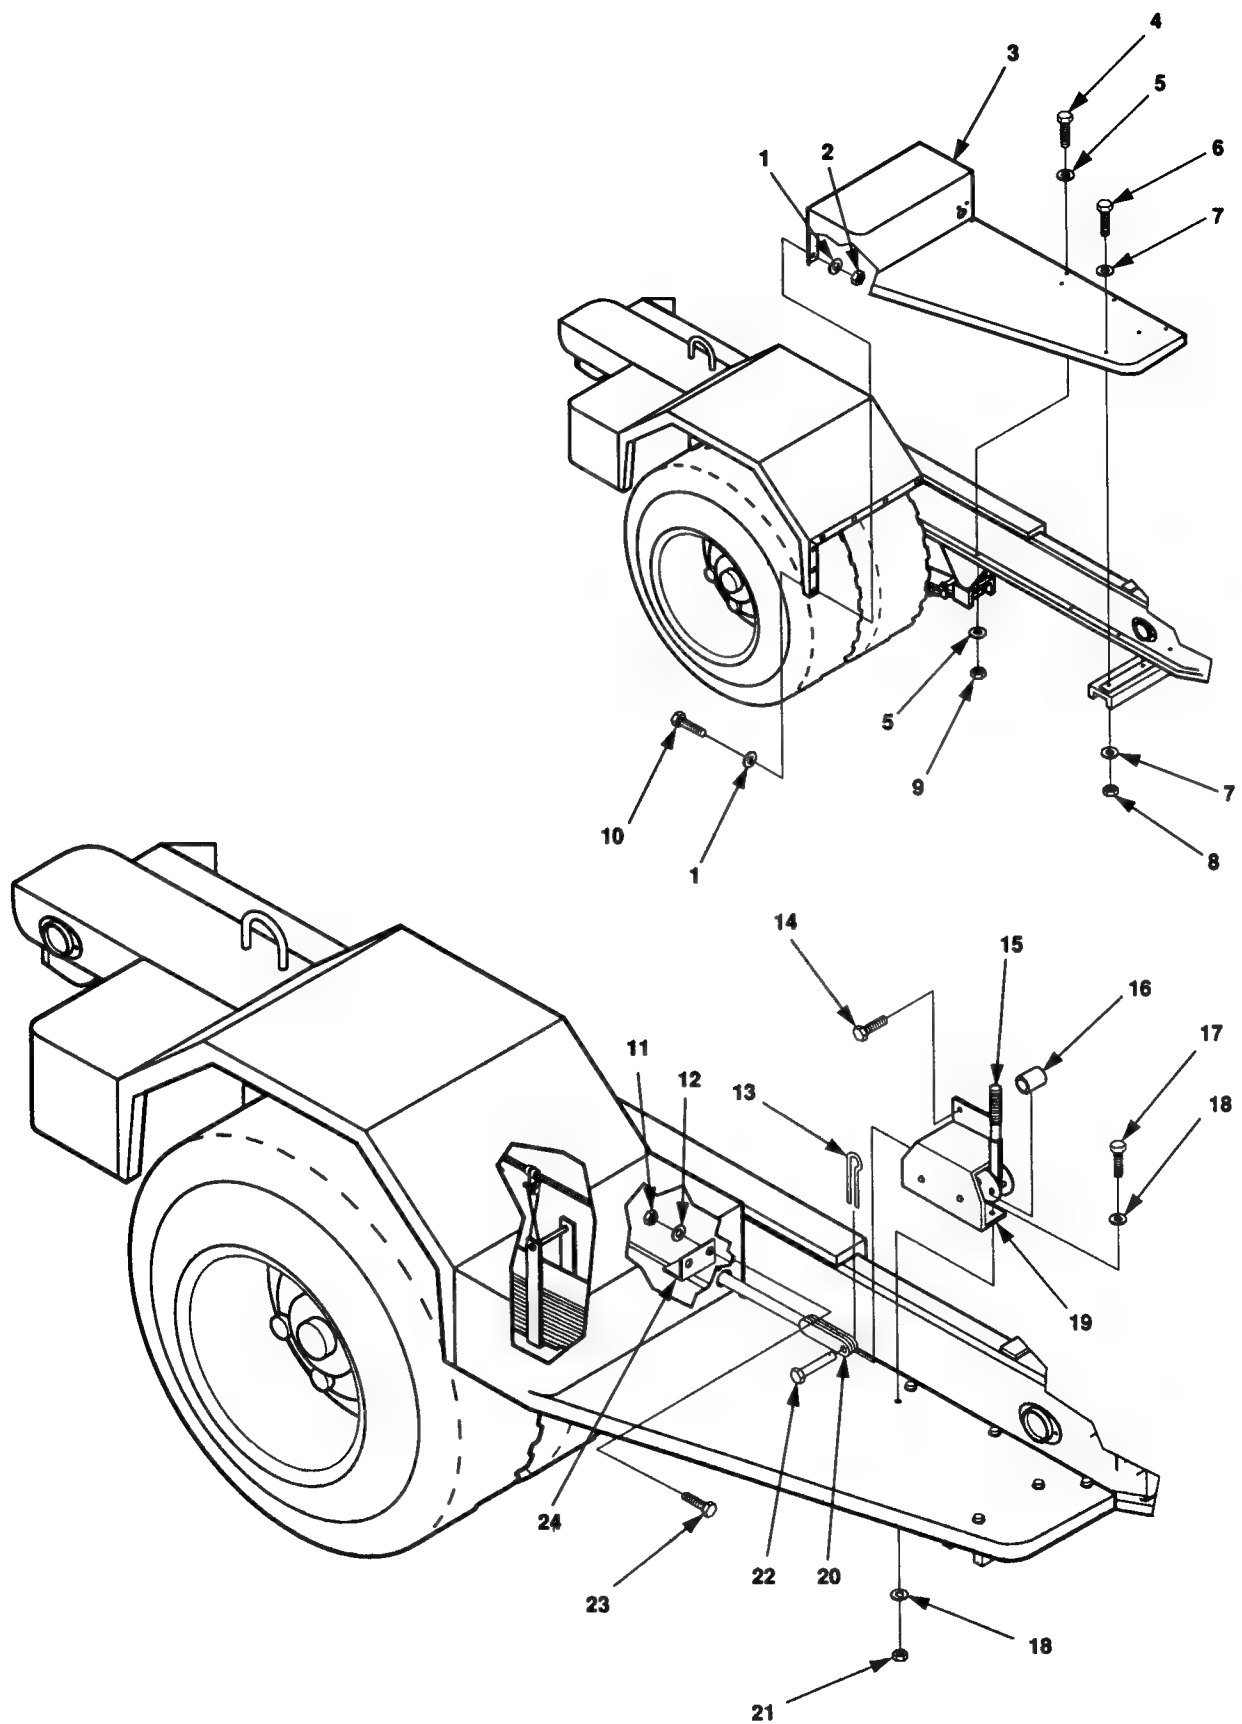

Figure 4-20. Front Step Replacement.
3. Remove cotter pin (13, figure 4-20), spacer (16), and clevis pin (22) securing handbrake cable to handbrake lever mechanism (15).
4. Remove two screws (14) that secure handbrake bracket (19) to trailer frame.
5. Remove two self-locking nuts (21), flat washers (18), and screws (17) securing handbrake bracket (19) to front step (3). Discard self-locking nuts.
6. Remove handbrake bracket (19) and handbrake mechanism (15).
7. Remove two self-locking nuts (11), flat washers (12), and screws (23) that secure brake cable bracket (24) to front step (3). Remove cable (20). Discard self-locking nuts.
8. Remove seven self-locking nuts (2), flat washers (1), and screws (10), securing front step (3) to front edge offender. Discard self-locking nuts.
9. Remove three self-locking nuts (9), flat washers (5), and screws (4), securing the front step (3) to trailer frame. Discard self-locking nuts.
10. Remove five self-locking nuts (8), flat washers (7), and screws (6) securing front step (3) to chassis. Discard self-locking nuts.
11. Remove front step (3).